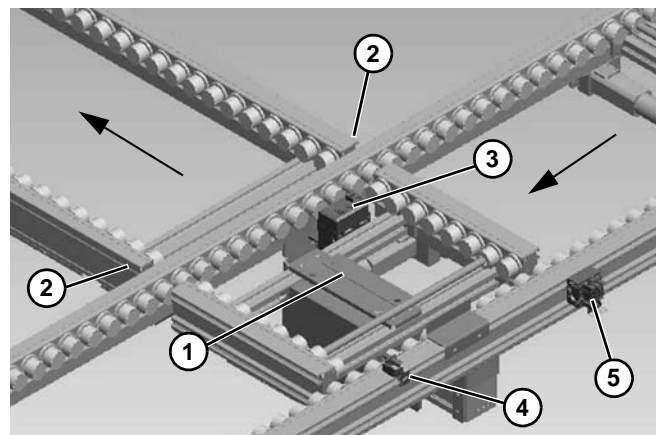

Figure 33
- Install and adjust Lift and Transfer module (Figure 33, item 1).
- Connect transfer conveyor with connecting brackets (Figure 33, item 2).
- Locate and install pallet stop (Figure 33, item 3), if required. (Refer to "Pallet Stops" starting on page 6.)
- Locate and install pallet sensor (Figure 33, item 4). (Refer to "Sensor Mounts" starting on page 6.)
- Install and connect pneumatic solenoids (Figure 33, item 5), provided by others.